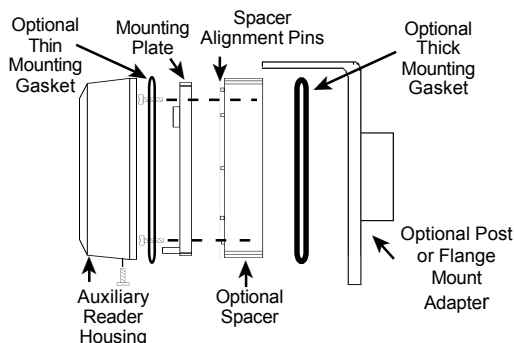

Figure 4 - Post/Flange Mounting
- c. If using the spacer with gaskets, install the thick gasket between the spacer and the mounting surface, install the mounting plate and spacer using the two 6-32 x 1-1/2" screws (supplied with the spacer), then place the thin gasket around the mounting plate (Figure 4).